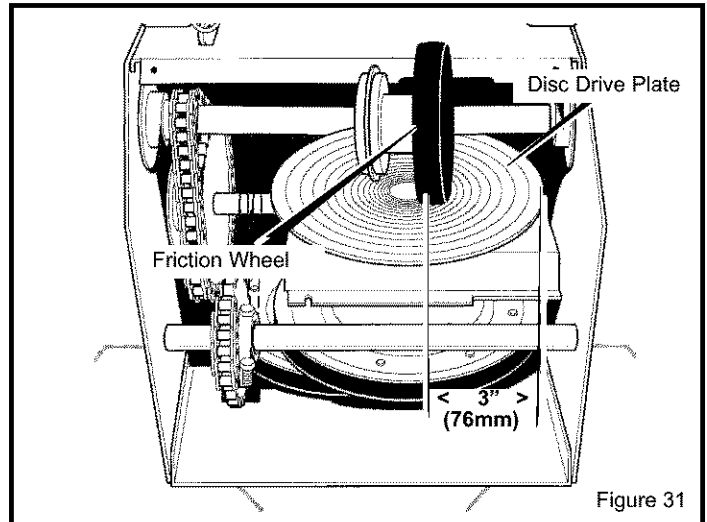

Figure 31
3. Note position of friction wheel on disc drive plate. Proper position from the right outer side of disc drive plate to the centre of friction wheel must be 3" (76 mm) (see Figure 31).